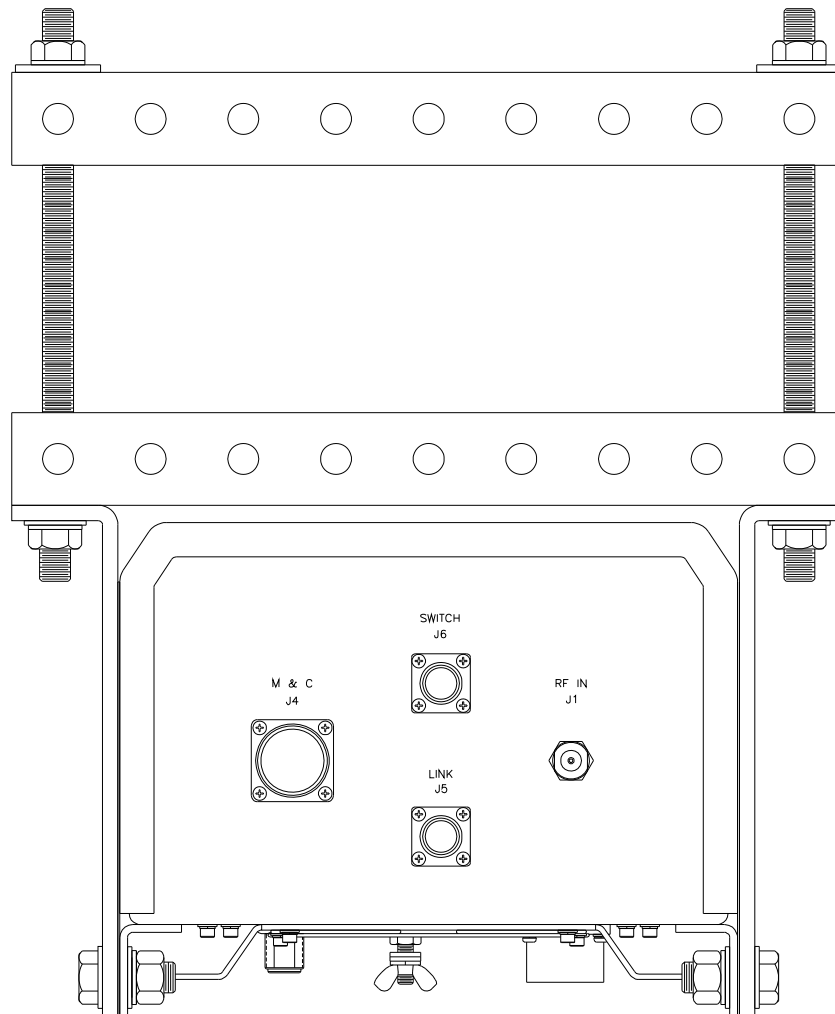

Figure 2-12: Compact Outdoor Mounting Completed
3. Bring the unit up tight under the boom (with the long axes parallel), sliding the All-Thread studs past the sides of the boom to show above the boom top. Place the remaining pieces of Uni-strut (open channel down) across the boom, onto the protruding All-Thread stud ends. Secure firmly with a flat washer and $\frac{1}{2}$ " nut on each of the four All-Thread stud ends. Looking from the end of the boom, the mounted unit should look as shown in Figure 2-12.